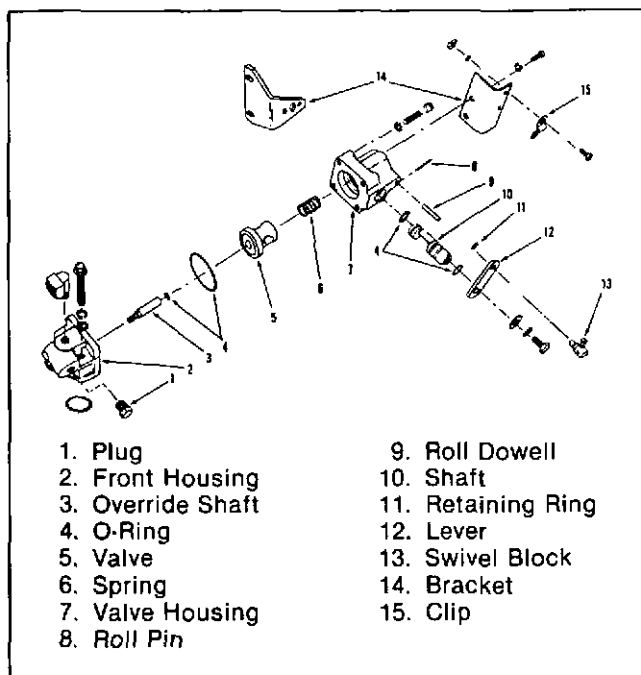

Fig. 6-6, (F5133). Manual shutoff valve.
3. Remove the small pin dowel holding the manual shutoff shaft in the housing, Fig. 6-6. Lift out the shaft and discard the O-ring.
3. Install the manual shutoff valve and spring in the valve housing. Install a new O-ring on the control shaft near the end with the lever. Push the control shaft through both the valve housing and the control valve. Continue to push the shaft through the housing until the O-ring groove on the end of shaft is seen. Install the O-ring on the shaft. Lubricate and slide the shaft back through the housing to align the pin groove. Insert the pin to hold the control shaft, Fig. 6-6.